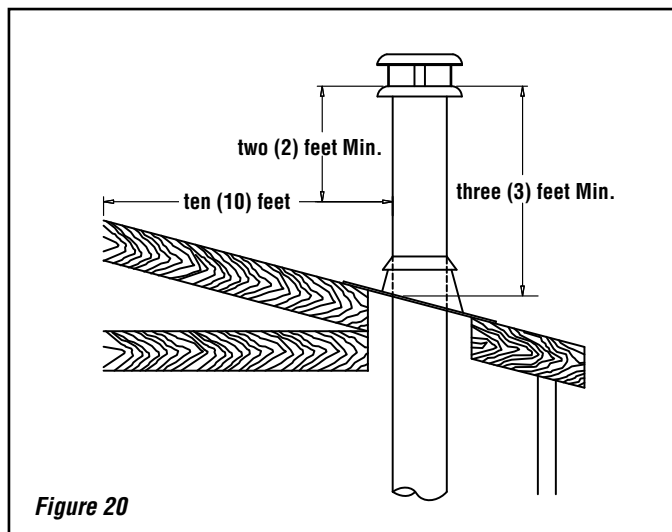

Figure 20
5. All chimney installations must include at least one support in order to be able to take any lateral load. The maximum chimney length that can be supported by the fireplace is nine (9) feet (2.75 m) for Secure Temp S2100+* / Nova Temp HT6000+* / Secure Temp GX* and 26 feet (8m) for ACBI* (air cooled) chimney. In altitude, add 18" (450 mm) to the chimney for every 2,000 feet (600 m) above sea level.
6. The chimney must extend at least three (3) feet (915 mm) above its point of contact with the roof and at least two (2) feet (610 mm) higher than any wall, roof or building within ten (10) feet (3 m) of it (**Figure 20**).
7. If the chimney extends higher than five (5) feet (1,500 mm) above its point of contact with the roof, it must be secured using a roof brace.